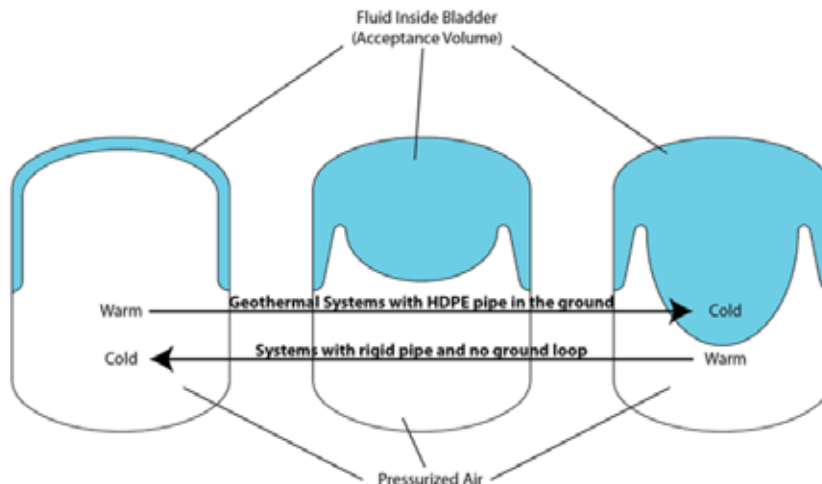

Figure 10: Screen shot of Geothermal Expansion Tank Calculator at www.geo-flo.com
From practical experience in the industry, it is apparent that ground loop systems benefit from an expansion tank to avoid “flat loops”, which can cause the heat pump to shutdown due to low/no water flow and premature pump failure. Based upon research and development conducted by Geo-Flo Products Corp. in the design of its Pressure Battery (HDPE bladder-type expansion tank -- Figure 8) for residential systems, an expansion tank calculator has been created on the Geo-Flo Calculators website (www.geo-flo.com, “Design Calculators” link). Calculations consider the percentage of HDPE pipe vs. the percentage of rigid piping (see the Calculator screen shot in Figure 10). For small systems (up to about 6 tons of equipment), the Pressure Battery is an easy solution. It is adequately sized for a small system, and avoids the issue of the tank rusting from low temperature operation. However, for larger systems, a higher volume tank will be required, which typically consists of a steel shell. Fortunately, there is a relatively simple solution to the condensation and eventual rusting problem associated with steel tanks. Providing a thermal break as shown in Figure 9 between the expansion tank and the piping system, helps reduce condensation on the tank. A short piece (typically 2 to 3 feet) of piping (typically rubber hose that is compatible with the antifreeze in the system) usually provides enough of a thermal break.
3. Use the Expansion Tank Calculator on the Geo-Flo website (www.geo-flo.com, “Design Calculators” link) to determine the tank needed (see Figure 10). In this example, a minimum acceptance volume of 6.8 gallons is needed.